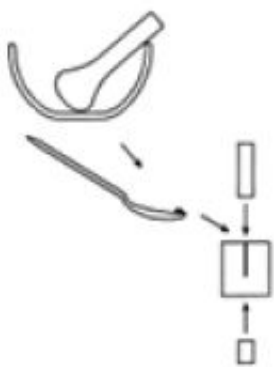

Fig. 3
**8.** After that, clamp the press into a vice as shown in Fig. 3, thereby pressing against the dies so that the substance is pressed into a compressed pellet.